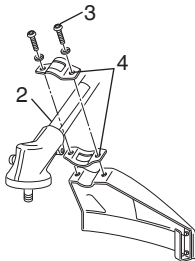

Fig. 2
Aligning to the position indicated by the guard location label (2), firmly secure the cutting attachment guard to the drive shaft tube with the bolt (3) and guard bracket (4). (Fig. 2)